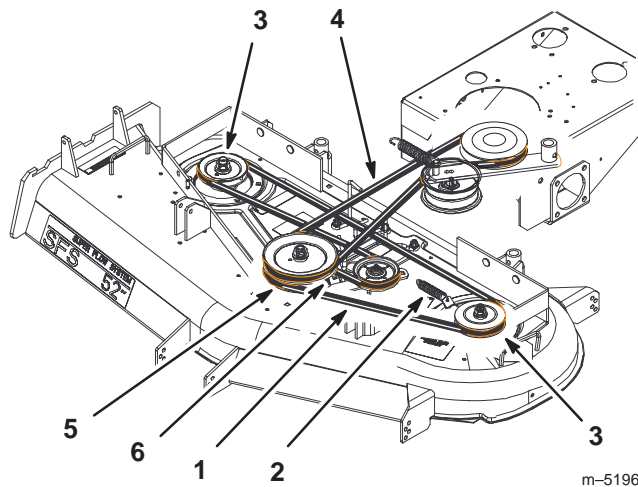

Figure 57
5. Disconnect the idler arm spring to relieve tension on the idler arm and idler pulley, then remove the worn deck belt (Fig. 57).
6. Install the new deck belt around the two outside spindle pulleys, the idler pulley, and in the lower groove of the center spindle pulley (Fig. 57).
7. Connect the idler arm spring (Fig. 57).
11. Adjust deck belt guide an 1/8 in. from belt (Fig. 57).